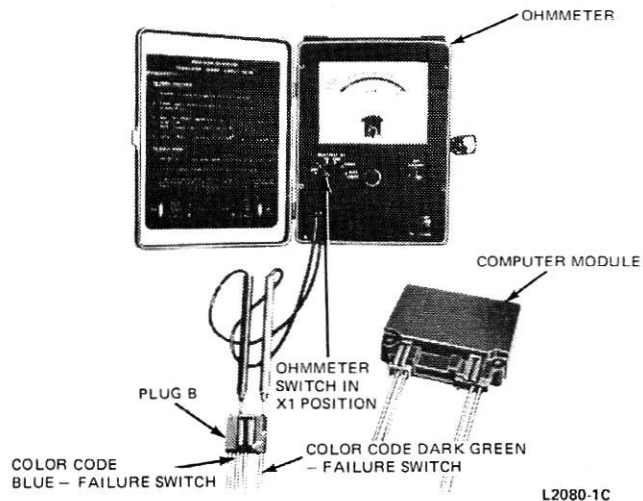

FIG. 13 Testing Failure Switch Circuit
1. Remove plug B from the module (Fig. 13).